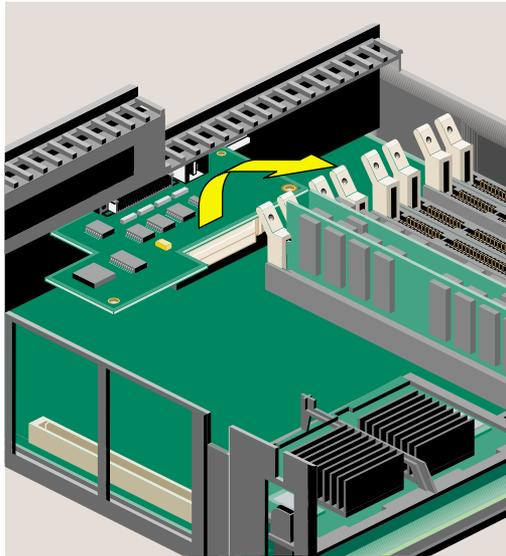

Figure 2-49 Removing the Display Adapter Board
4. Grasp the board on either side and gently rock it out until it disconnects from the slot on the system board (Figure 2-49). Do not exaggerate the rocking motion, or you will bend the pins. (You may find this difficult because there is not a lot of space in which to work.)